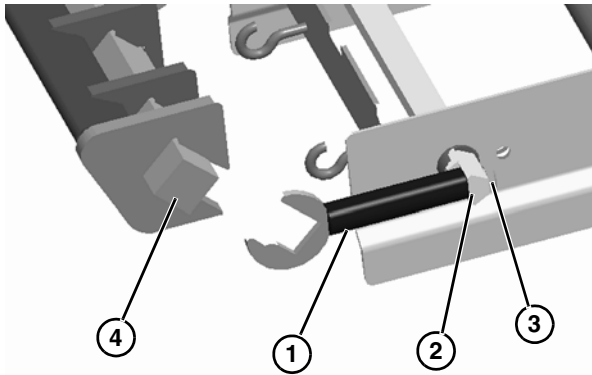

Figure 19
1. Place the nose bar idler shafts (**Figure 19, item 1**) against the holes in the hex shaft assembly (**Figure 19, item 2**) and secure each with a bolt (**Figure 19, item 3**).
2. Attach the nose bar transfer post (**Figure 19, item 4**) to the nose bar idler shafts.